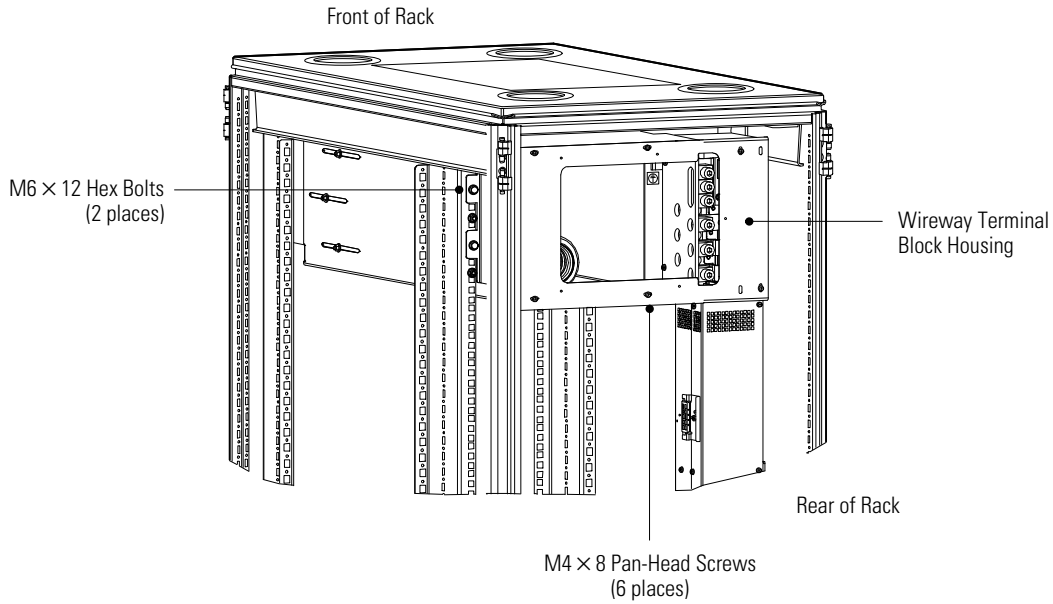

Figure 17. Wireway Terminal Block Housing Installation
- 18. Using two M6 × 12 hex bolts, secure the left side of the wireway terminal block housing to the rack. See Figure 17. Torque the bolts to 5.1 ± 0.8 Nm (45 ± 7 lb in).
- 19. Using six M4 × 8 pan-head screws, secure the wireway terminal block housing to the wireway and to the bar. See Figure 17. Torque the screws to 1.7 ± 0.2 Nm (15 ± 2 lb in).